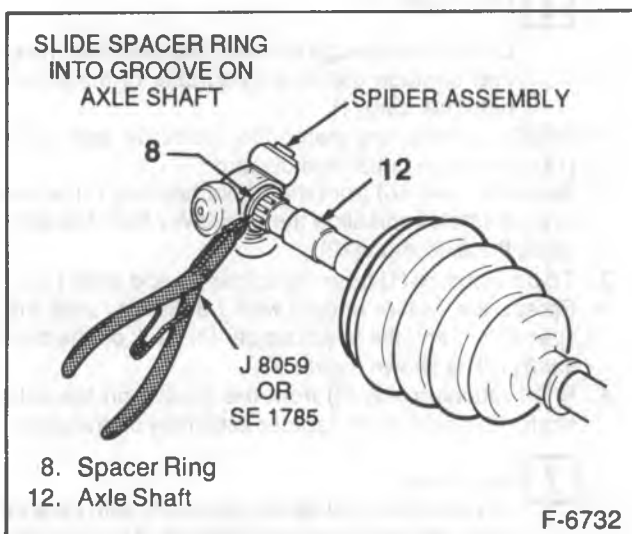

Figure 52—Installing Spider Assembly
1. Small seal-retaining clamp (11) on the neck of the seal (10).
2. Slide the seal (10) onto the shaft (12) and position the neck of the seal in the seal groove on the axle shaft (12).
- Crimp seal retaining clamp (11) with J 35910 to 136 N·m (100 Lbs. Ft.).
3. Spacer ring (8) on the axle shaft (12) and beyond the second groove as shown (figure 52).
- Slide the tri-pot spider assembly against the spacer ring (8) and the shaft (12).